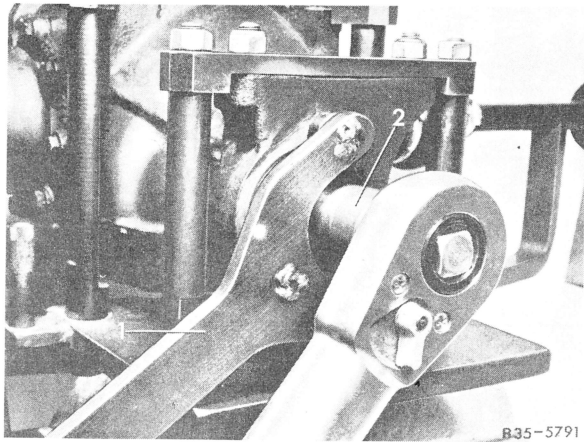

Fig. 2
- 1 Attach holding wrench to universal flange and loosen self-locking slotted nut with slotted nut wrench (Fig. 2).